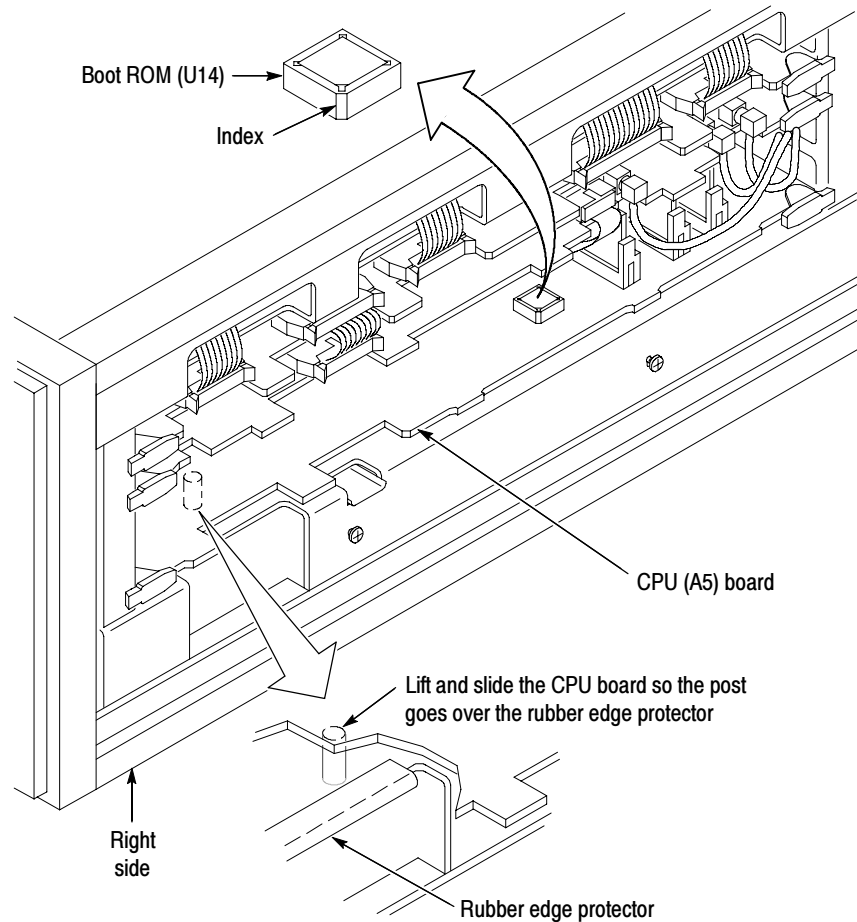

Figure 13: Replacing the Boot ROM
- b. Slide the CPU (A5) circuit board out until you can reach the Boot ROM (A5U14). You may need to lift the CPU (A5) circuit board over a board post located below the board (see Figure 13).
- c. Remove the existing Boot ROM (A5U14) using an extraction tool, and replace it with the supplied Boot ROM (A5U14) on the CPU (A5) circuit board as shown in Figure 13. Note the index on the corner of the Boot ROM (A5U14).